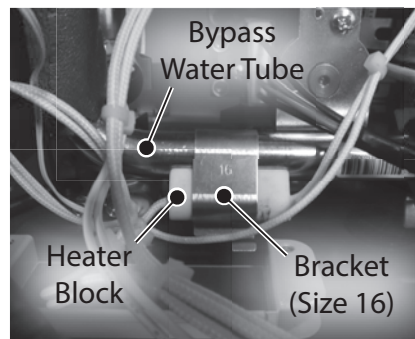

Figure 211 - Remove heater block and bracket from bypass water tube
- 17** Locate the heater block attached to the tube as shown in Figure 211. Remove bracket (size 16) securing heater block to tube. Place bracket aside in a safe place for reinstallation. Route heater block and wiring inside water heater cabinet.